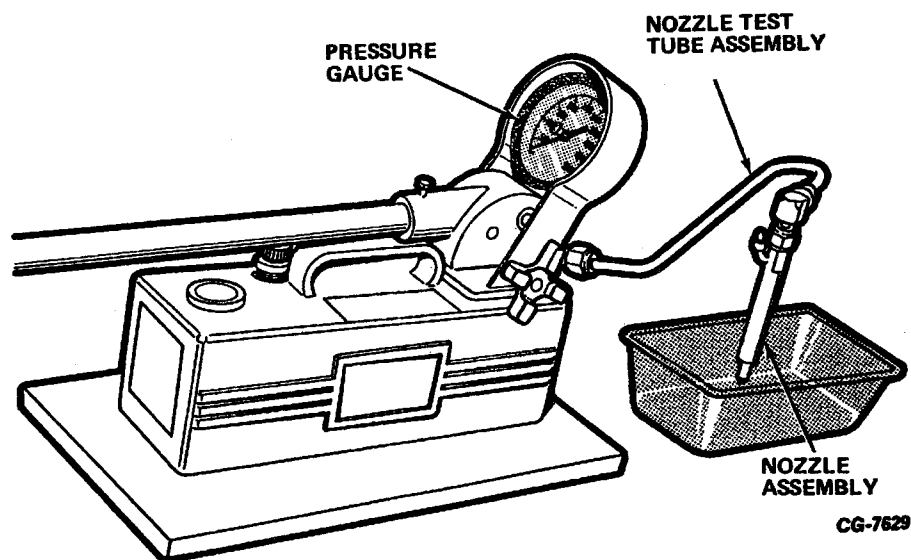

Figure 12.13. Nozzle Test Equipment
1. Using VISCOR 1487C (SAE J967 Standard) calibration fluid and a standard hand test pump ZTSE-4045A, equipped with a pressure gauge having a capacity of at least 27,600 kPa (4000 psi), proceed as follows: (Refer to **Figure 12.13.**)